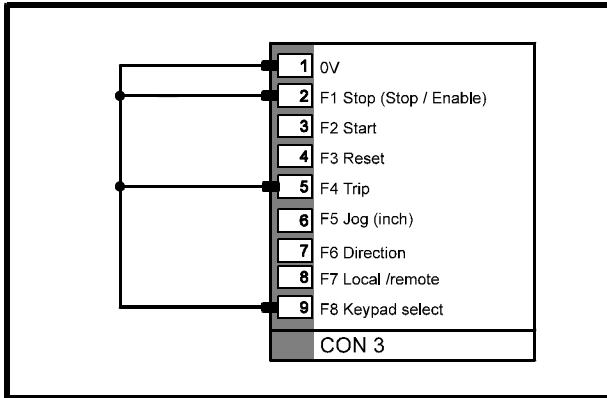

Figure 8–2 Connections for operating the Drive in Keypad Mode
- Connect together pins 1, 2, 5 and 9 of connector **CON 3** as shown in Figure 8–2.